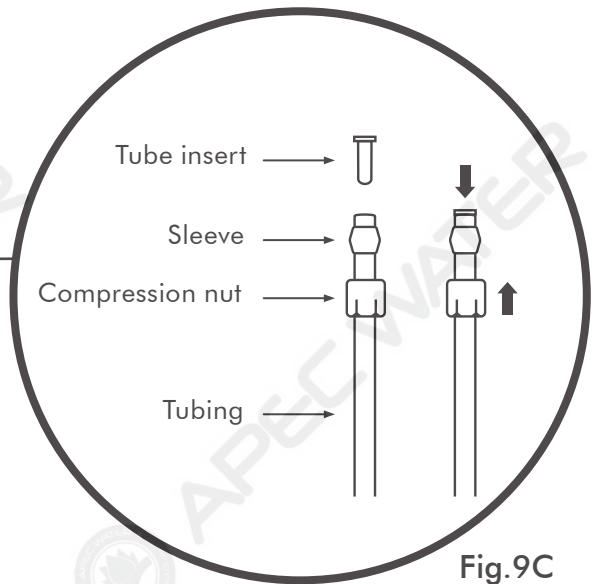

Fig.9C
2. Make sure the tube insert is **pushed all the way** into the tubing **Fig. 9C (Page 12)**.